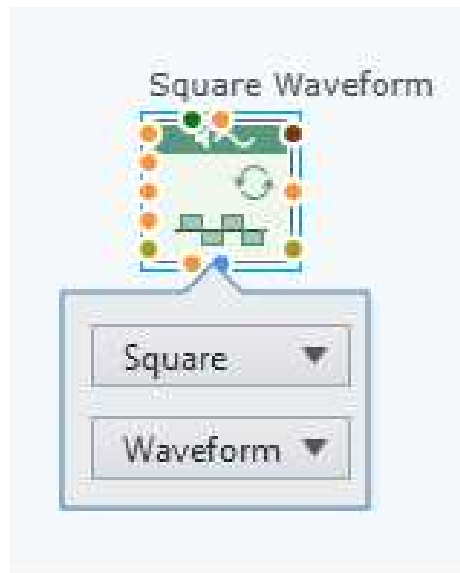

Figure 3.8: Square Wave generator
- Use “wave generator” block to construct a square wave shown in Fig. 3.8. The wave generator is placed in the following path: Analysis/Signal Processing/Generation/Wave generator.